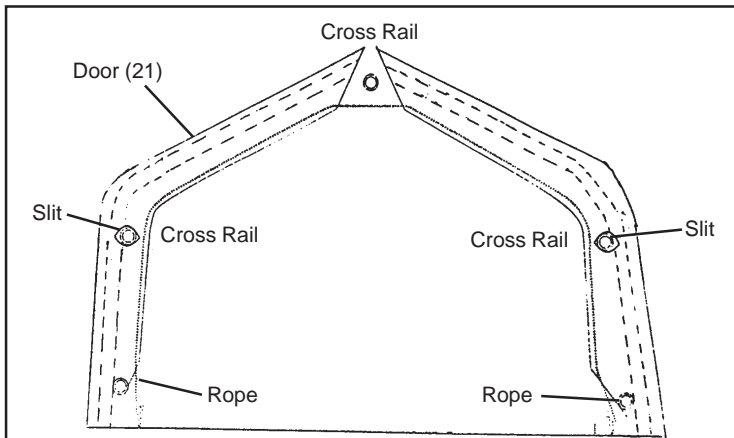

Figure 9
1. At the doorway of the frame, remove the Bolts (14) and Nuts (16) from the three Top Rails (1), top and sides.
2. Place the Tarp Door (21) over the arch of the front End Bow and wrap the material around the arch while bringing the slits to the inside of the frame. Place the Top Rail (1) at the Top Crest (12) into the slit. **See Figure 9.**
3. Once the Top Rails (1) are into the slits on the sides and top, put the Bolts (14) and Nuts (16) back into all the places that they were removed from and tighten them down. **See Figure 9.**
4. Notice the black rope hanging out of the bottom of the Tarp Door (21) on both sides. With two people, wrap the rope under the Corner Feet (4). Both of you are to pull up at the same time to tighten the door. When Tarp Door is snug, tie off the rope to the Corner Feet (4).
5. Attach the side of the Tarp Door (21) to the frame by using the 6 pcs. Ball Tie Downs (24).
7. At the back doorway of the frame, remove the Bolts (14) and Nuts (16) from the three End Top Rails (11), top and sides.
8. Place the Tarp Back (22) over the arch of the back End Bow and wrap the material around the arch while bringing the slits to the inside of the frame. Place the End Top Rail (11) at the Top Crest (12) into the slit. **See Figure 9 on the previous page.**
9. Once the End Top Rails (11) are into the slits on the sides and top, put the Bolts (14) and Nuts (16) back into all the places that they were removed and tighten them down. **See Figure 9.**
10. There are extra slits in the Tarp Back (22) for the Support Braces (10a+b). Repeat the steps as before for the sides with the Support Braces replacing the exact hardware. Tighten. **See Figure 9.**
11. Notice the black rope hanging out of the bottom of the Tarp Back (22) on both sides. With two people, wrap the rope under the Corner Feet (4). Both of you are to pull up at the same time to tighten the door. When Tarp Back is snug, tie off the rope to the Corner Feet (4).
12. Attach the side of the Tarp Back (22) to the frame by using the 6 pcs. Ball Tie Downs (24).